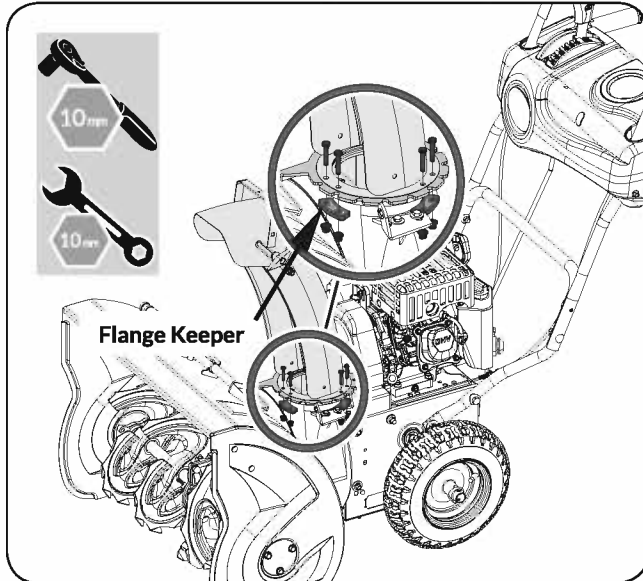

Figure 4c
- Secure the three flange keepers to the bottom of the chute crank flange by sliding the bolts through the chute base holes, sliding the keepers up from the bottom, then securing them with the included nuts. (See **Figure 4c**)